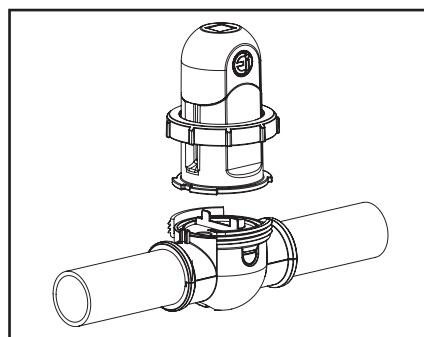

Figure 26. Remove the Cell
5. Remove the cell (see Figure 26).